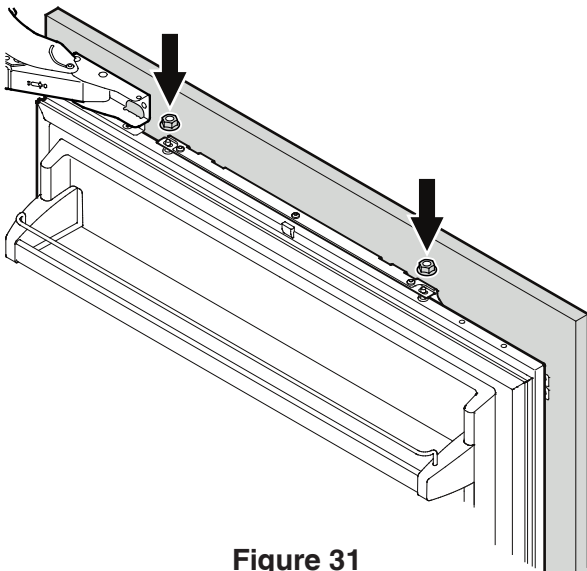

Figure 31
2. Open the refrigerator door and hang the panel on the top adjusting bolts (**Figure 31**).
3. Screw on the hex nuts to the adjusting bolts and finger tighten temporarily (**Figure 31**).